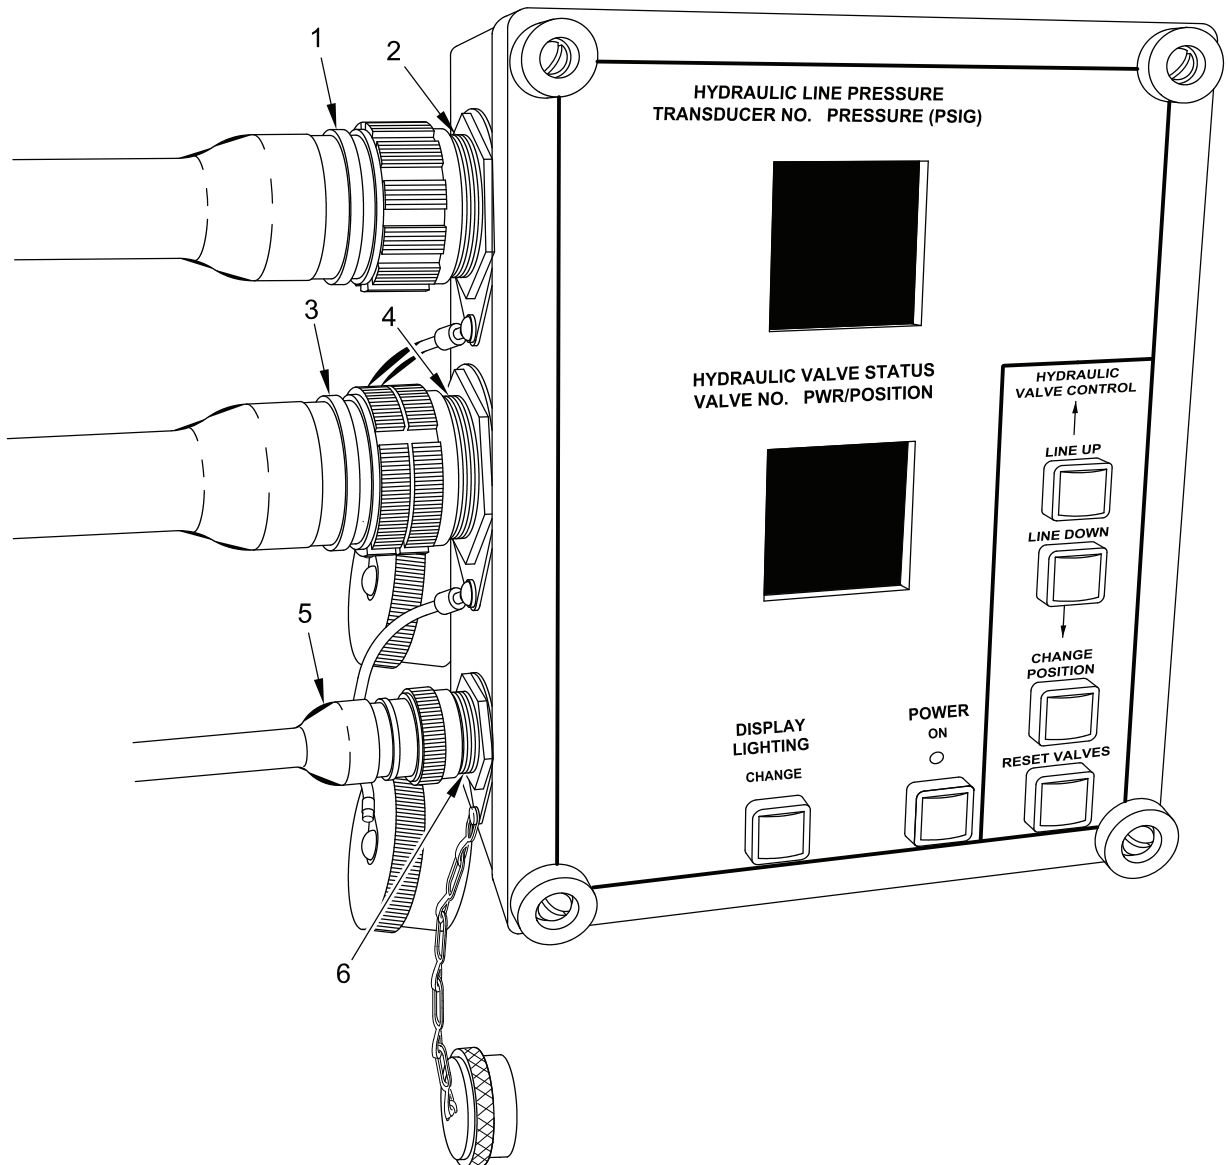

Figure 28. Installation and Removal of Wiring Harness W4 (Umbilical Cable W4).
1. Remove umbilical cable connector W4P3 (Figure 28, item 1) from control box connector J3 (Figure 28, item 2).
2. Remove umbilical cable connector W4P2 (Figure 28, item 3) from control box connector J2 (Figure 28, item 4).
3. Remove umbilical cable connector W4P1 (Figure 28, item 5) from control box connector J1 (Figure 28, item 6).